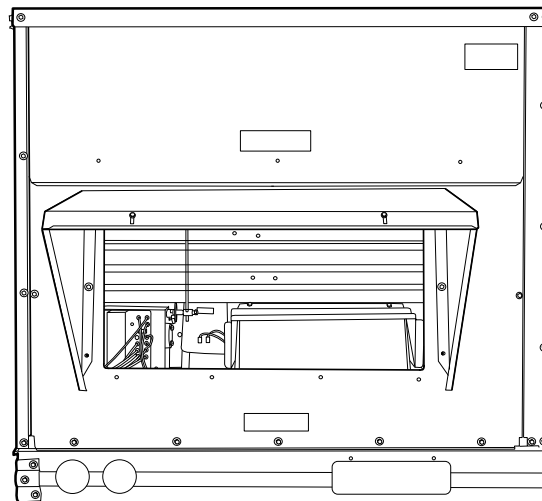

Fig. 29 — Outdoor-Air Hood Installed on Unit
8. Fasten hood top and side plate assembly (Fig. 29) to outdoor-air opening panel with screws provided.